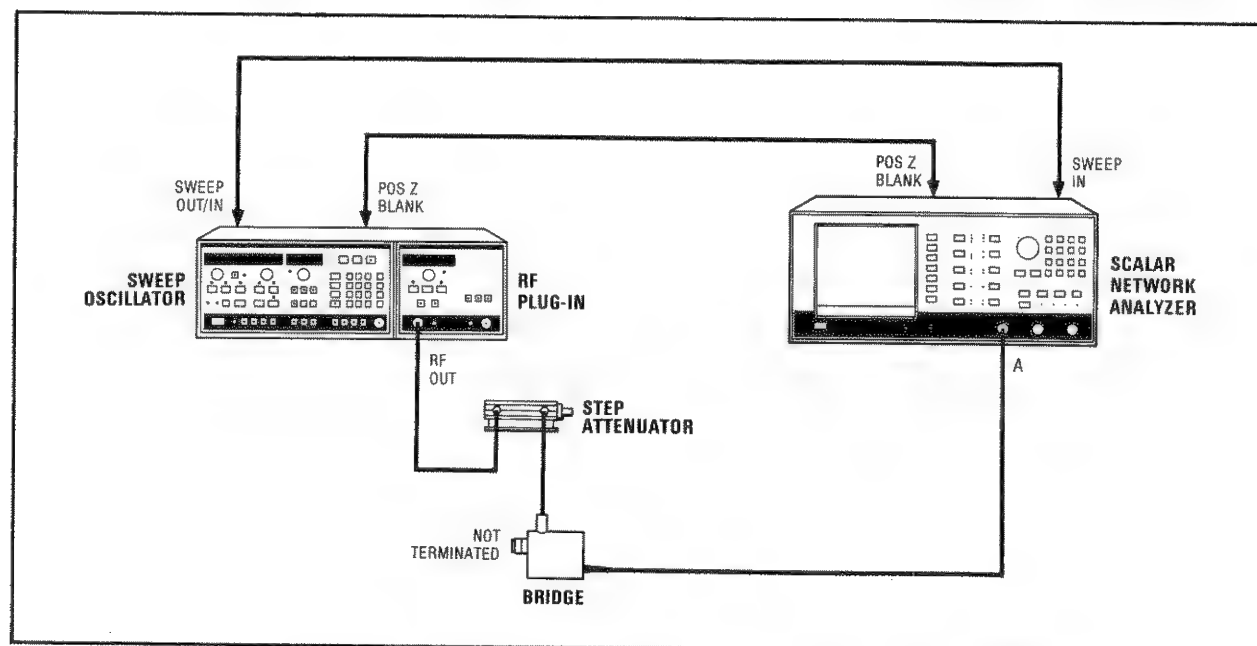

Figure 8-7. Preamplifier Assembly Adjustment Setup
2. Connect the equipment as shown in Figure 8-7. If the Directional Bridge is an 85020B, connect the Model 11852A 50-ohm to 75-ohm minimum loss pad between the step attenuator and the input port of the Directional Bridge. Allow the equipment to warm up for 30 minutes.